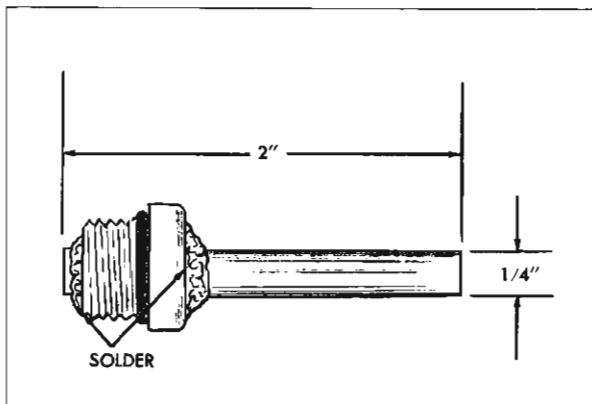

Fig. 21-71 Filler Plug Adapter
b. Install 2 inch length of metal tubing ( $\frac{1}{4}$ " O.D. x  $\frac{3}{16}$ " I.D.) into center of filler plug and solder tubing on both sides of filler plug to form air tight connection (Fig. 21-71).